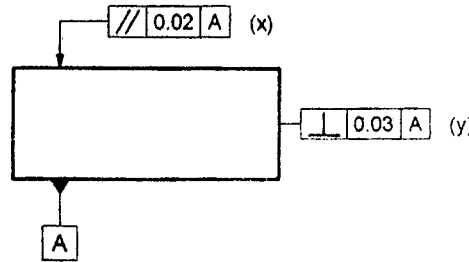

Fig. 2
- (g) Refer Fig. 2 and state the meaning of symbol at 'x' and 'y'.